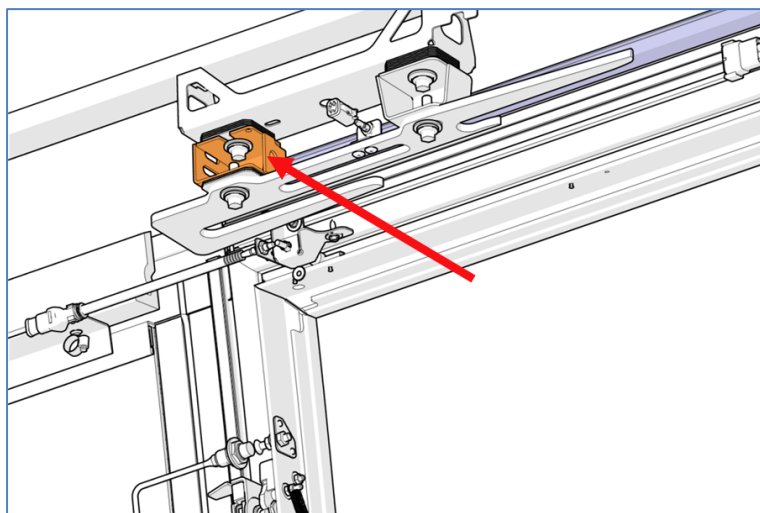

Figure 46
7. Locate the front rail support (Figure 46).